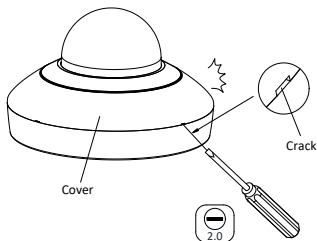

Figure 2-1 Open the Cover
1. Open the cover with the straight screwdriver from a crack on the cover, as shown in Figure 2-1.